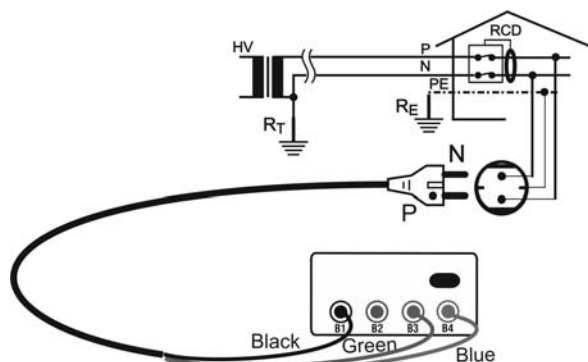
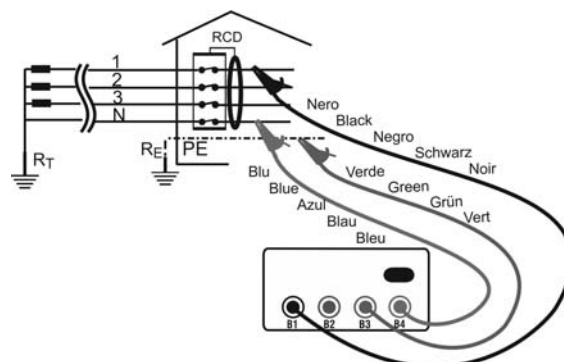
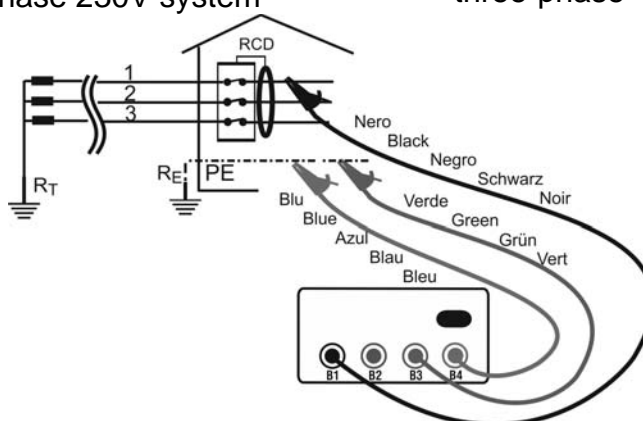

Fig. 13: Connection for  $R_A$  measuring of single-phase/two-phase 230V system
Fig. 14: Connection for  $R_A$  measuring of three-phase 400V + N system
Fig. 15: Connection for  $R_A$  measuring of three-phase 230V or 400V system without N
2. Insert the 3 Black, Green, Blue connectors of the shuko cable or of the separate cables into the relevant instrument input terminals **B1**, **B3**, **B4** (see Fig. 13, Fig. 14, Fig. 15). In case separate cables are used, insert alligator clips on the free cable ends.
3. Insert the Shuko plug into a 230V 50Hz socket or the alligator clips onto the conductors of the three-phase system (see Fig. 13, Fig. 14, Fig. 15)